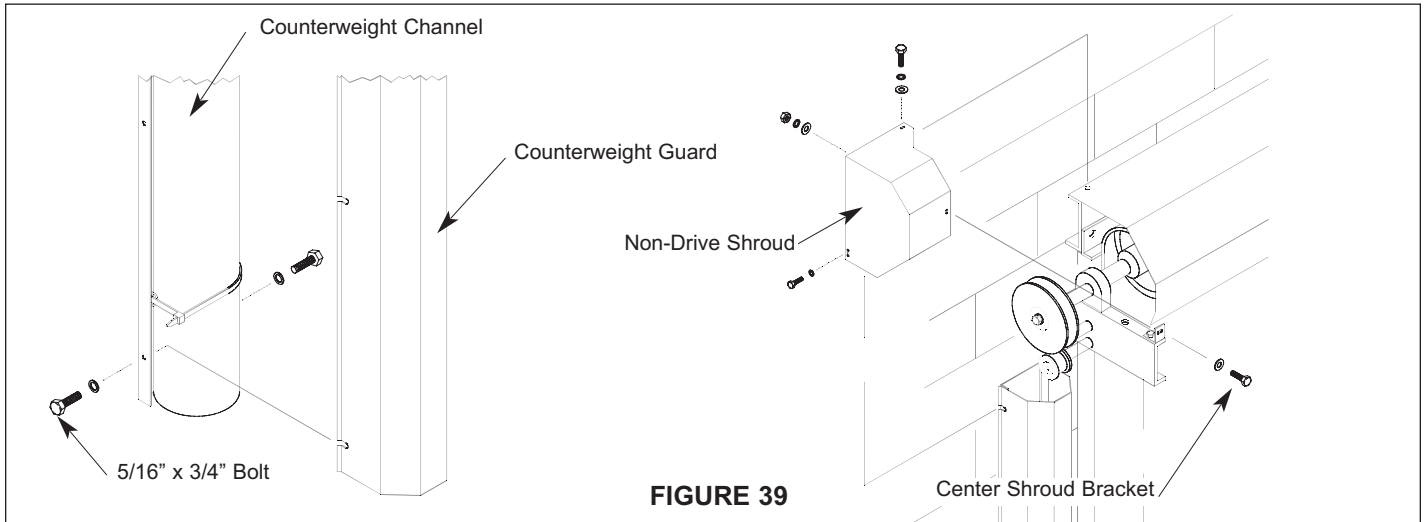

FIGURE 39
11. With door in closed position and power off, slide the pvc pipe over the counterweight and push it back into the channel. Cable tie pipe into position through the rings in the channel, **Figure 39**.